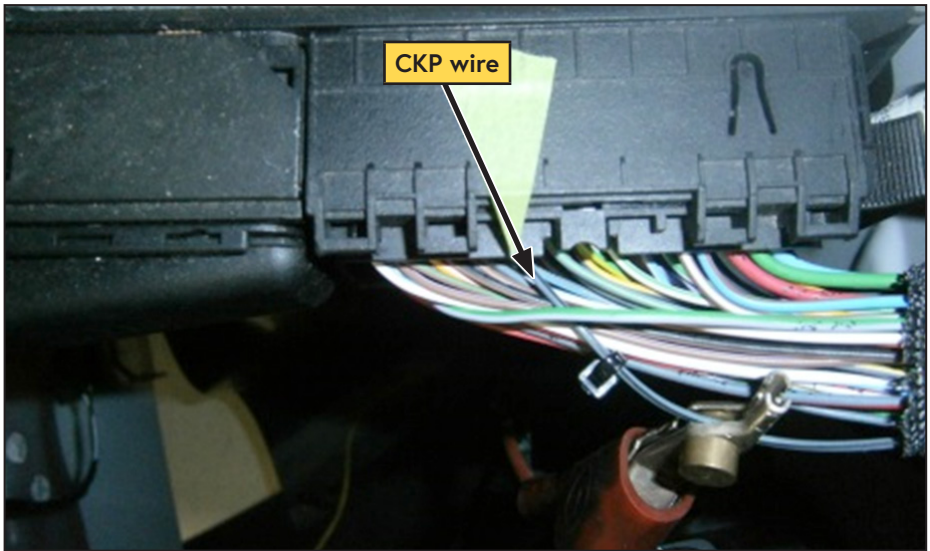

Figure 65 — CKP wire
- Locate the Crank Position Sensor (CKP) grey wire with black stripe at pin 39 of the ECM connector. Splice the white wire from the Throttle Control into the CKP wire (Figure 65).